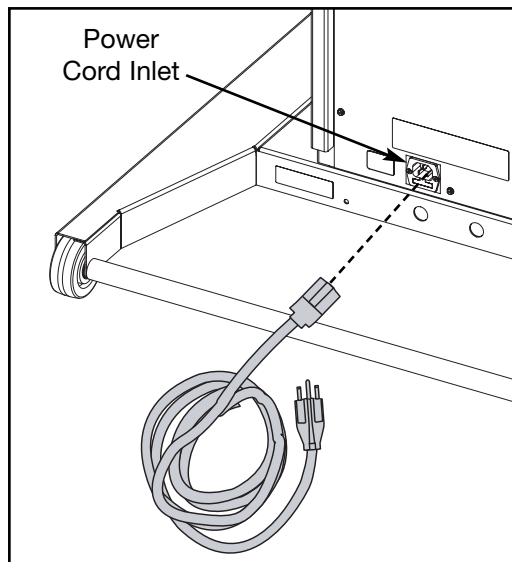

Figure 12
- A. Plug the power cord into the inlet in the back of the unit. **NOTE:** Do not plug the power cord into an outlet at this time. See Figure 12.